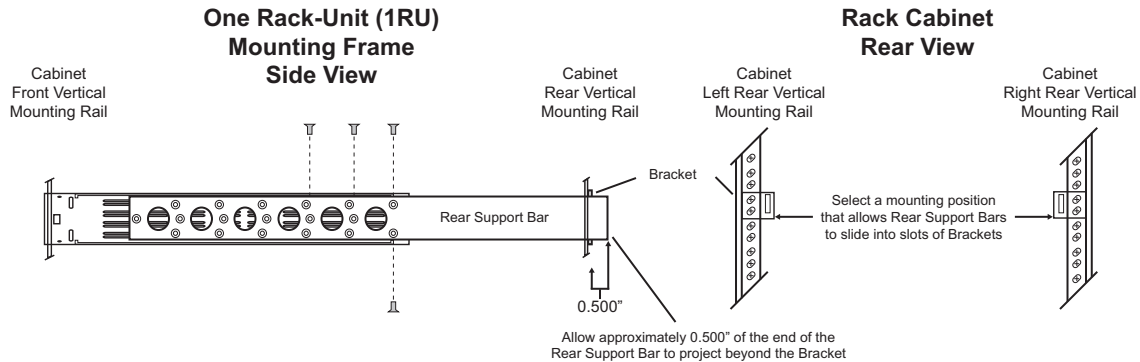

Figure 5 Installing the Support Brackets
In some cases, (mobile trucks, etc.) it may be desirable to also support the rear of the ACO-4500. The rear support bars can be attached to the ACO-4500 in six possible positions. (**Figure 5**)
2. Using four screws per bracket, as shown in **Figure 5**, attach both bars.